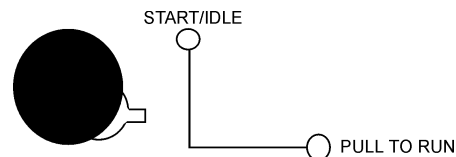

Figure 20. Engine Throttle Lever (high)
9. Pull the engine throttle and turn to the right until the metal stop rests against the control panel (Figure 20).